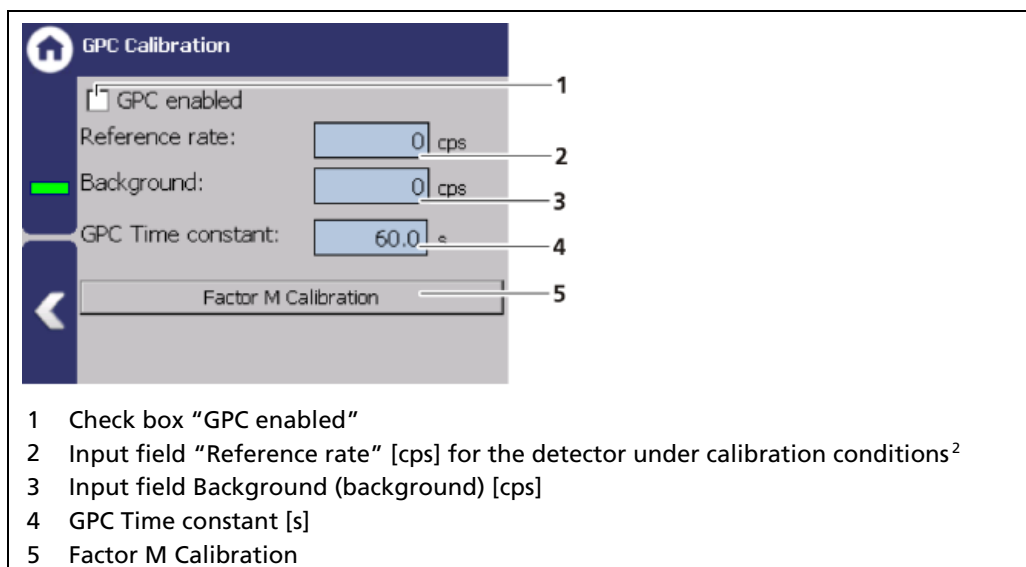

Fig. 79 GPC Calibration
"GPC calibration" is used to adapt the measuring sensitivity of the gas density detector to that of the level detector. The check box "GPC enabled" (Fig. 79, item 1) can only be selected when a detector is configured for gas density measurement.
The reference count rate measured at the GPC detector must be recorded at the same pressure at which the level calibration table was recorded. Therefore, it is recommended to read in the reference count rate immediately after recording the empty level count rate. Click on the input field (Fig. 79, item 2) to read in the reference count rate.
1. Click on the input field "Reference rate" (Fig. 79, item 2).
The background count rate (Fig. 79, item 3) indicates the natural background radiation of the gas density detector if no radiation source is installed. This count rate is compensated by the system.
5. Click on the input field "Background" (Fig. 79, item 3).
The reaction time of the measured value can be set in the input field "GPC Time Constant" (Fig. 79, item 4). The measurement reacts quickly to rapid process changes for a small time constant. The measurement reacts correspondingly slower for a larger time constant. However, due to the stronger filtering, the statistical error is reduced with a larger time constant and the measurement is correspondingly less noisy.
To calculate the correct factor M, click on the button "Factor M Calibration" (Fig. 79, item 5). In this table the first calibration point can be inserted directly from the available data with the button <Add Entry>. At least one more point is required to calculate a factor M. This second point is ideally taken at the highest occurring gas density. Further calibration points with other gas densities improve the accuracy of Factor M. With the button <Calculate M> the factor M is calculated from the table values. No adjustment needs to be performed for standard applications.
- ▶ After all values have been entered or calculated in the GPC calibration window, the GPC function can be activated with the "GPC activated" check box (Fig. 79, item 1).
With the GPC Auto-Deactivation function, the GPC is disabled (Fig. 79, item 1) when the count rate determined by the GPC detector is below the set threshold.